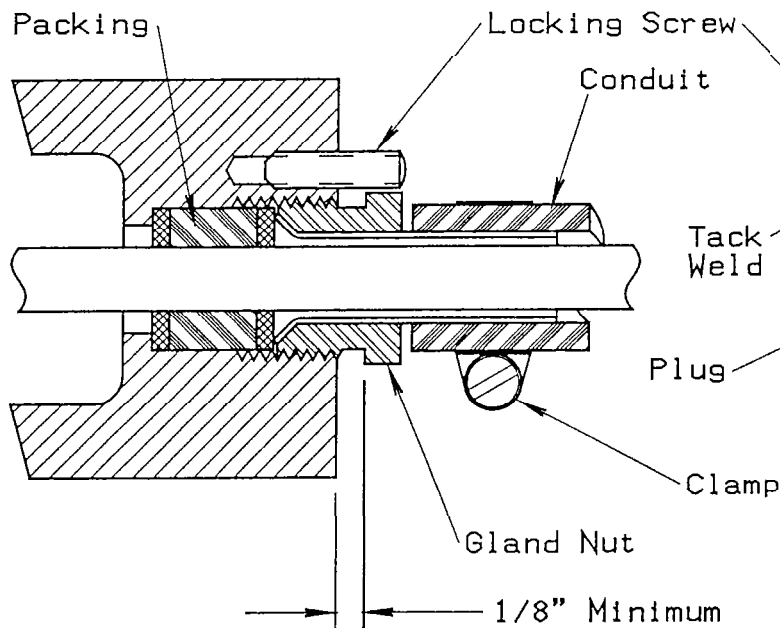

Figure 1
1. () (WEEKLY) All packing glands are tight and 1/8 inch minimum clearance remains between the gland nut and the enclosure. (figure 1)
2. () (WEEKLY) All packing nuts are secured from loosening by a locking screw, wire, or other means. (figure 1)